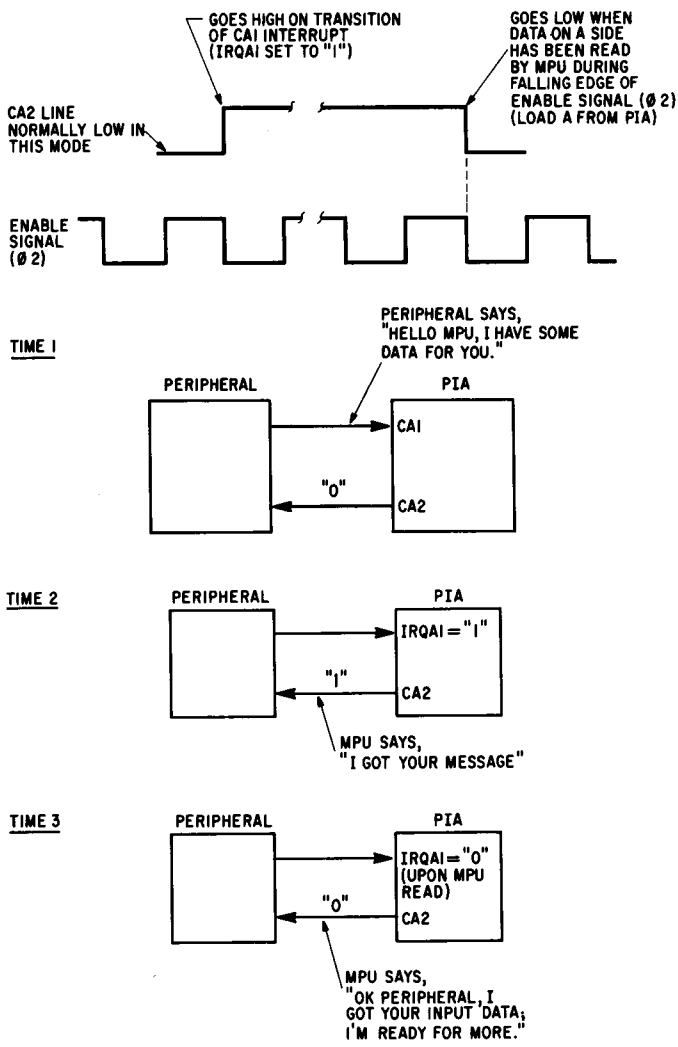

Fig. 9.17 Handshake mode
1. *Bits 5, 4, and 3 of CRA = 100 (Handshake Mode)* The handshake mode is used when a peripheral is transmitting data to the MPU. The peripheral must tell the MPU when it has some data, and the MPU must tell the peripheral when it has taken the data (see Fig. 9-17). The typical sequence is as follows: